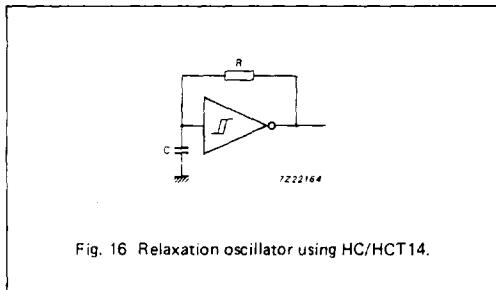

Fig. 16 Relaxation oscillator using HC/HCT14.
HC/HCT14 used in a relaxation oscillator circuit, see Fig. 16.
**Note to Fig. 16**